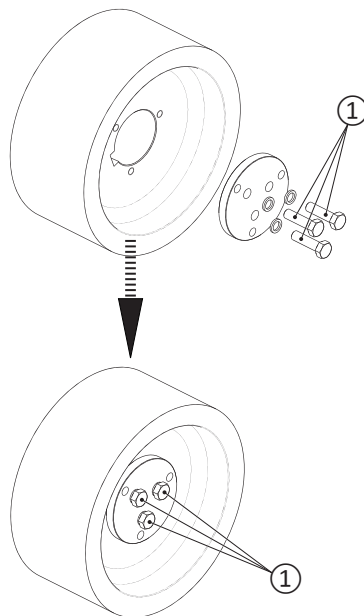

Figure 5
- Position the securing plate, grower and bolts as shown in "Figure 5".
- Tighten the bolts ① in circular sequence to a torque of 90 Nm.
① SCREWS M12x45